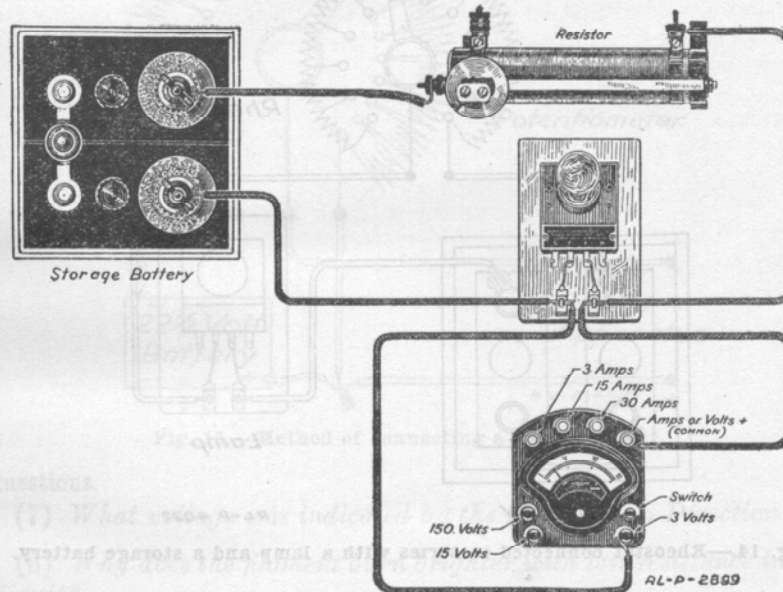

Fig. 13.—Method of connecting a resistor in series with a vacuum tube and storage battery.
Resistors.—If a certain length of resistance wire, for example, German silver wire, is inserted in a vacuum tube circuit in which a current is flowing, the pressure at the terminals of the tube will be reduced, and at the same time the flow of current through the tube will be reduced. If the length of the resistance wire is increased the voltage and current will be still further reduced. Fig. 13 shows a resistance inserted in series with a VT-1 vacuum tube and battery. The resistance in this case is a device known as a *resistor* or *rheostat*.
The resistor consists of a tube of insulating material upon which is wound a number of turns of German silver or composition resistance wire. The ends of the coil thus formed are fastened to connecting terminals attached to the ends of the tube. A fastening device at each end of the tube supports a slide rod placed above the coil. A slider makes connection between the slide rod and the resistance wire by means of a contact spring attached to the slider. The number of turns of resistance wire, in other words the length of the wire in use, may be varied by moving the slider. The storage battery in Fig. 13, is a 4-volt battery. The filament of the tube shown requires only 2.5 volts in order to burn at proper brilliancy.
8. Replace the 10-foot No. 32 wire with the 5-foot No. 18 wire so that the connections will be the same as originally made in Direction 4. Cut one of the 5-foot leads in the middle and remove the insulation from the ends of the wires. Connect these ends to the resistor exactly as shown in Fig. 13, making sure the slider on the resistor is placed at the terminal end of the rod. Press the button switch on the meter and note the reading. Note whether or not the filament of the tube is lighted.